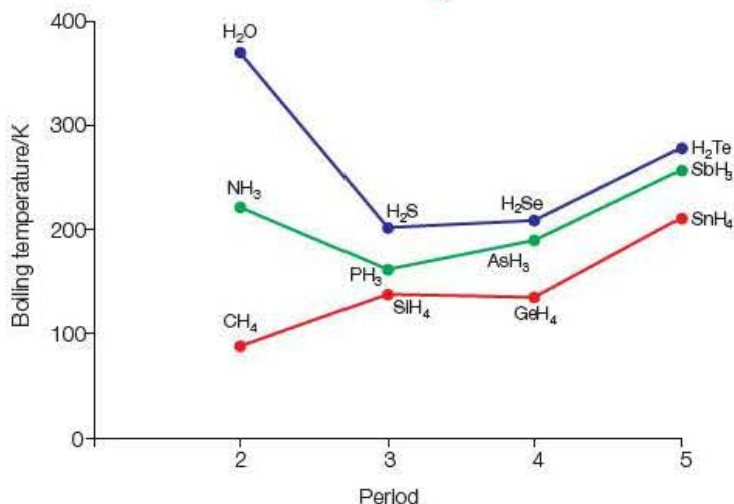

Figure 9.8 ►
- 7 Explain the differences in Figure 9.8 between the plot for the hydrides of group 6 and the plot for the hydrides of group 4.